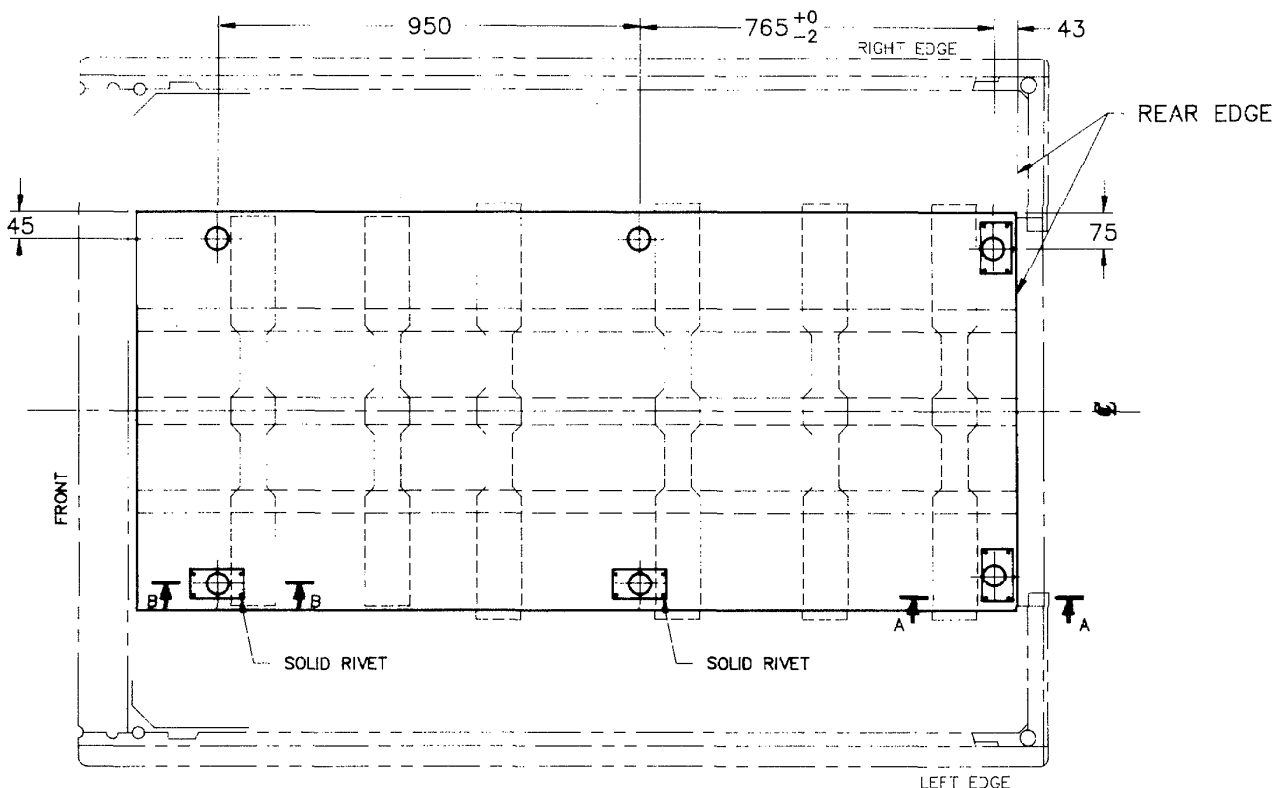

FIG 1
- a. Mark out the rear floor panel on the inside as shown in Fig 1.
- b. Identify the forward longitudinal lashing ring locations as shown in Fig 1 and grind off solid rivet indicated.
- i. Using the centre line of the lashing ring location as shown in Fig 1, mark out the rear corner mounting hole and drill with a 7mm drill.